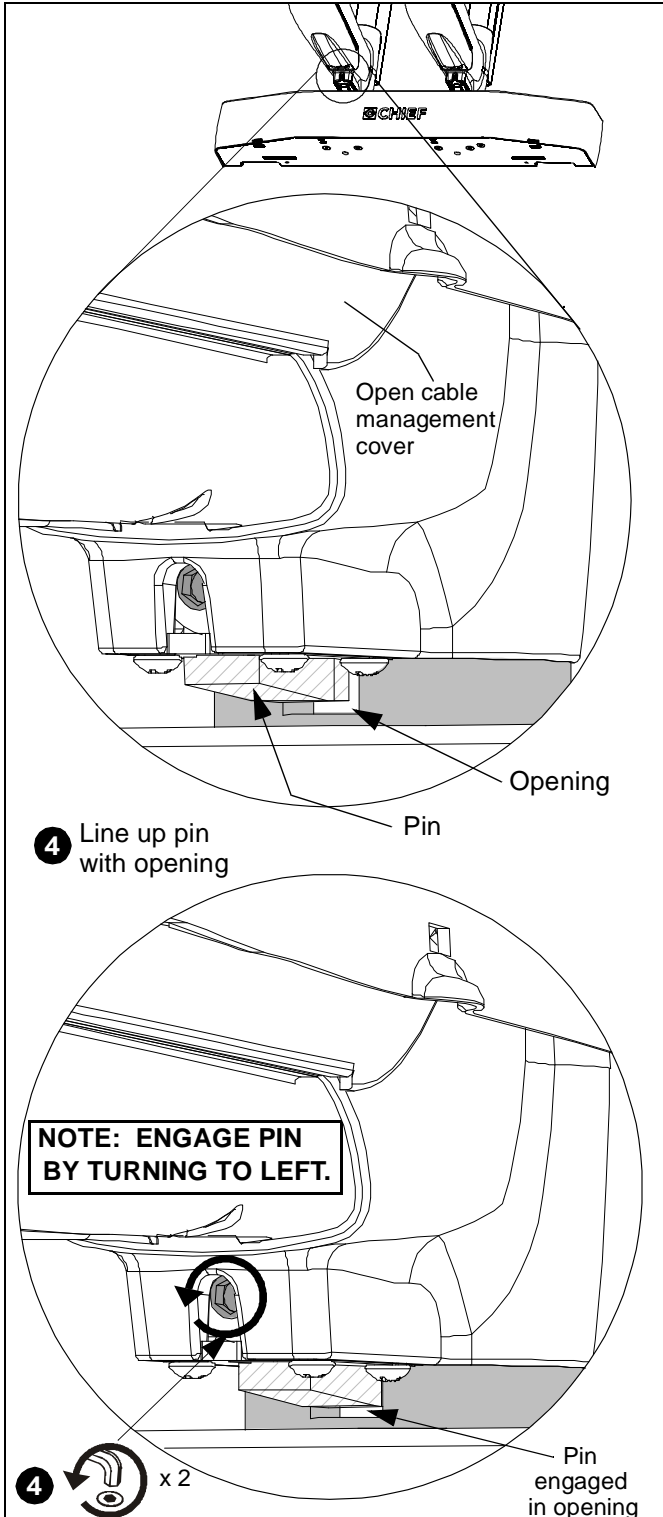

Figure 22
4. Engage PXR arms by lining up pin with opening and using 9" hex head wrench (Y) in opening on bottom of each arm. (See Figure 22)